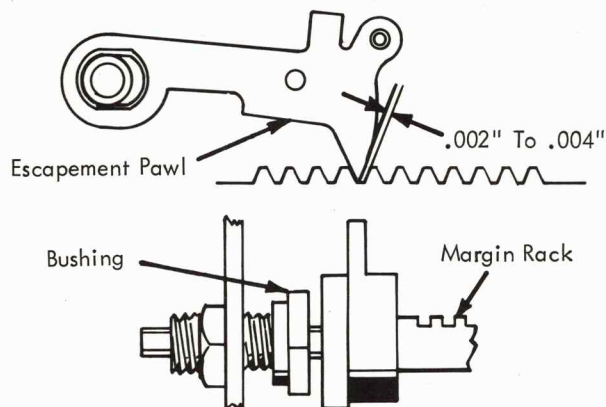

FIGURE 150.1 Overbank Adjustment
- a. Adjust the left hand margin rack bushing to obtain a clearance of .002" to .004" between the working surface of the escapement pawl, and the escapement rack tooth with the carrier held to the left in an overbank condition (Fig. 150.1).